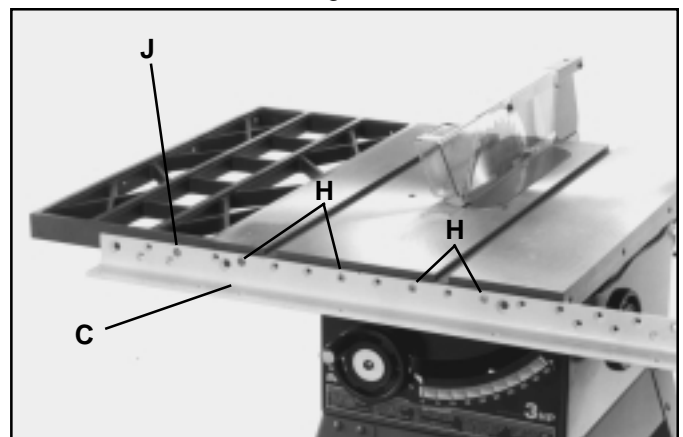

Fig. 11
8. Check to make certain there is no interference such as casting ribs behind front edge of saw table and drill a minimum of four 1/4" through holes into the saw table using holes in front rail as a template. Fasten front rail (C) Fig. 11, to saw table using the four 1/4-20 x 1-1/4" long flat head screws (H), flat washers, lockwashers and hex nut supplied. Remove bar clamps after front rail is fastened to saw table.
9. Drill an additional through hole in the extension wing using one of the holes in the front as a template and fasten front rail to extension wing using a 1/-20 x 1-1/4" long flat head screw (J) Fig. 11, flat washer, lockwasher and hex nut supplied.